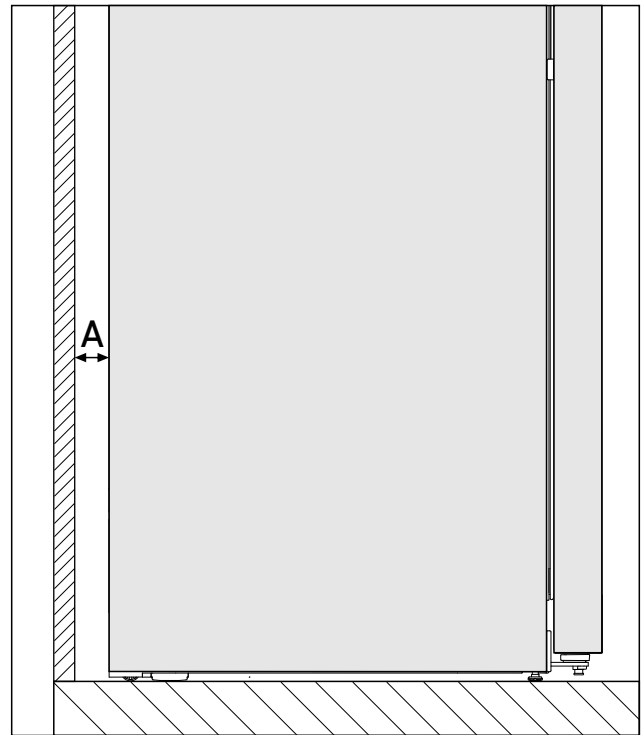

Fig. 2 *
The energy consumption has been determined with a gap of Fig. 2 (A) between the rear of the appliance and the wall. If the wall gap is less than Fig. 2 (A), this does not affect the appliance's operability but the energy consumption does increase slightly at a smaller wall gap.